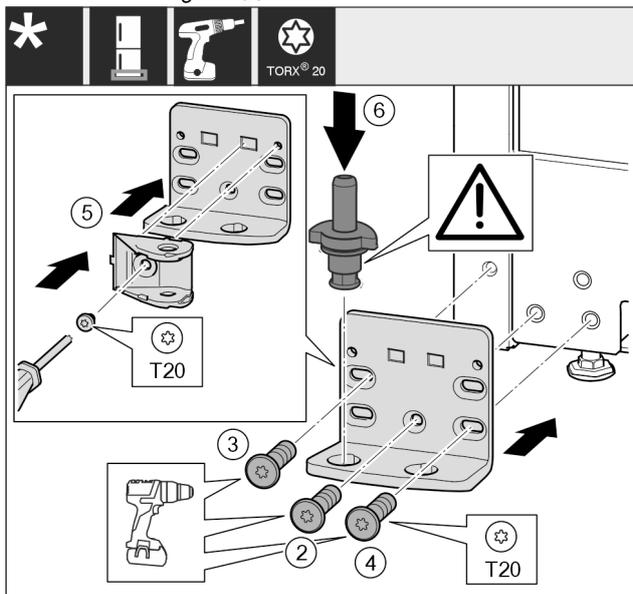

Fig. 39
- ▶ Place the swap bearing block on the other side and use a screwdriver to screw it on. Start with the screw Fig. 39 (2) at the bottom in the middle.
- ▶ Tighten screw Fig. 39 (3) and screw Fig. 39 (4).
- ▶ Turn the closing damper connection Fig. 39 (5) by 180°. Use screwdriver to screw it onto the other side of the swap bearing block.
- ▶ Insert the bearing bolt Fig. 39 (6) completely. Ensure that the latching cam is pointing towards the rear.